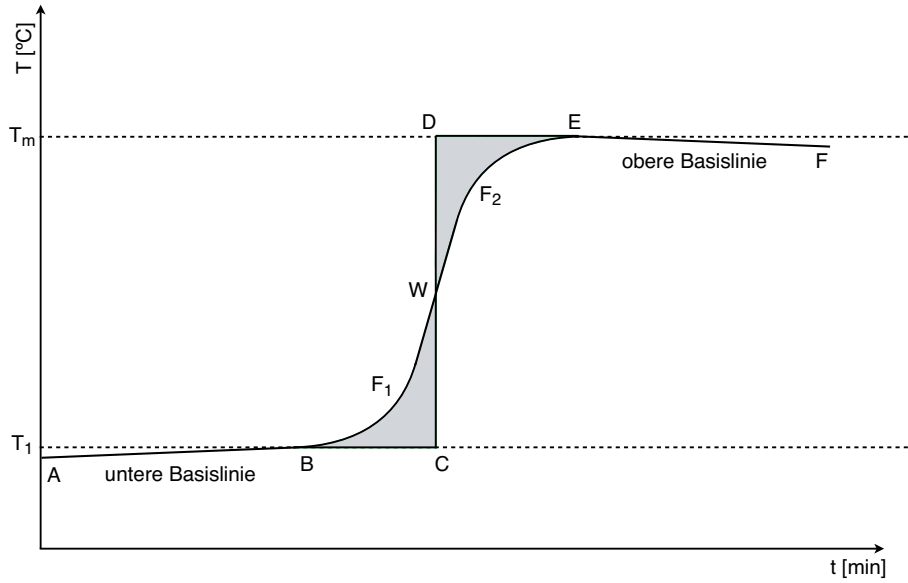

Figure A.1: A temperature-time diagram to determine the mixed temperature T_m in a calorimeter.
- Plot the temperature-time diagram of your measurement data of the water inside the calorimeter analogously to Figure A.1. Compare to the theoretical expectations.
Figure A.1 shows schematically the development of the temperature: From *A* to *B* the cold water with temperature T_1 slowly approaches towards room temperature. At point *B* the hot water of temperature T_2 is mixed into the cold water. There the temperature increases rapidly. Between *E* and *F* the temperature falls slowly and approaches towards room temperature T_f . The reason for that is that the calorimeter is not completely adiabatic. The temperature
One can see that the state of equilibrium takes form exponentially. In our case τ is huge compared to the time of measurement so the base lines between A and B , E and F respectively, can be approximated with straight lines. Because of the heat flow, the difference in temperature $E - B$ is not equal to the theoretically ideal temperature difference $D - C$, as it can be seen in Figure A.1.